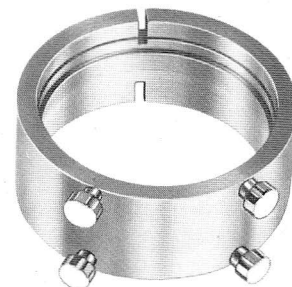

Fig. 21
- No.      has four push-pieces which make it possible to check the chronograph functions of an uncased movement with either the dial side or the chronograph mechanism uppermost. See fig. 21.